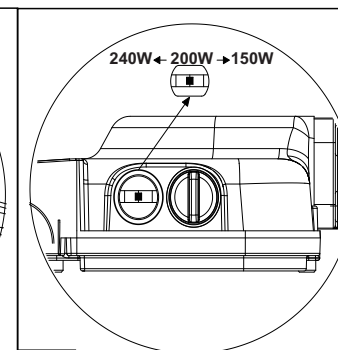

Fig. 7
2. Set the switch to the corresponding wattage position (Fig.7).